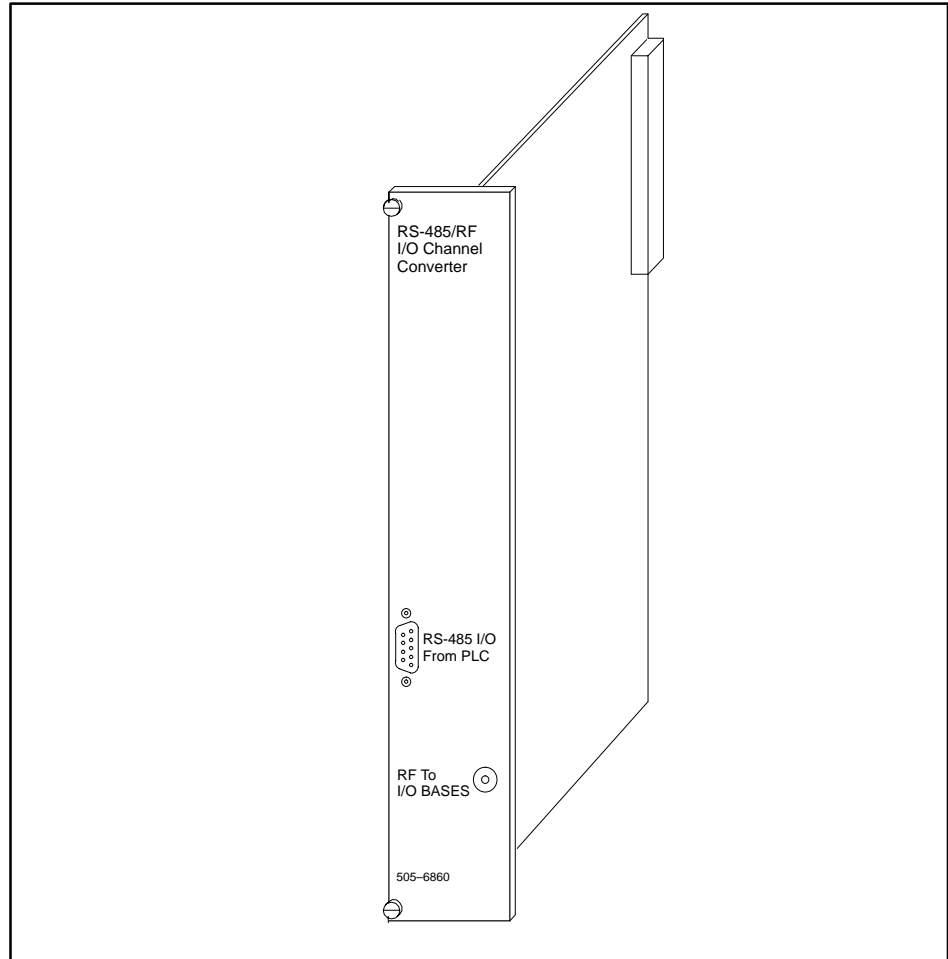

Figure C-8 RS-485/RF Connector Ports
2. Connect the RF (coaxial) cable to the PPX:505–6860 port that is labeled RF To I/O BASES. See Figure C-8.